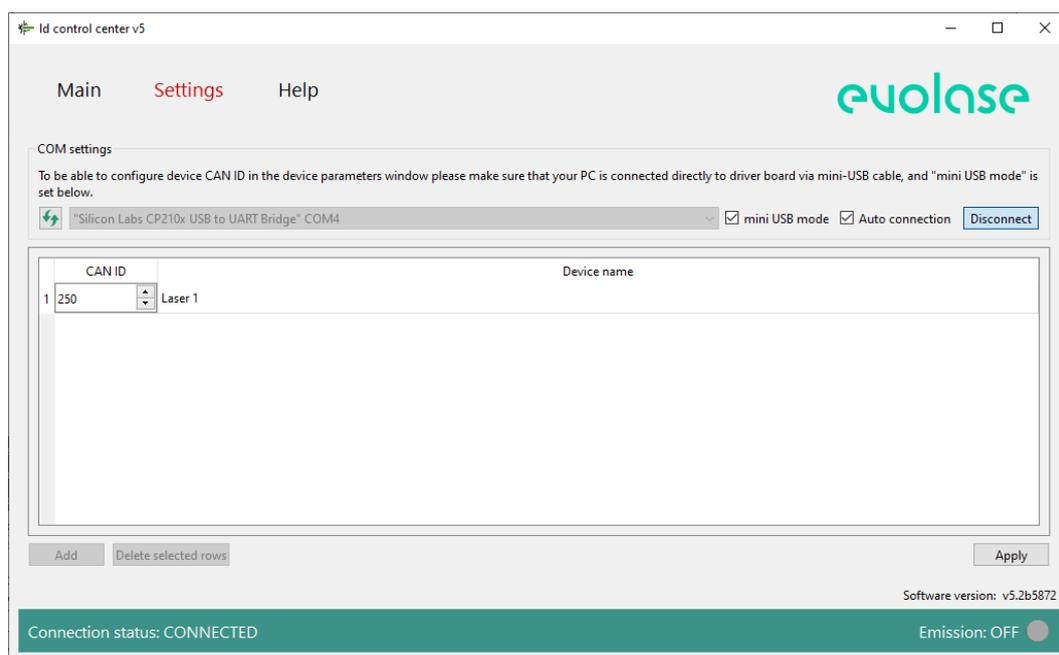

Figure 8: The system configuration menu
5. Click “Settings” to enter the program configuration menu (fig. 8).
The system configuration window is accessed by pressing “Settings” in the navigation bar. In this window (fig. 8) the user can set the number of channels, CAN network ID and the names for the connected drivers.